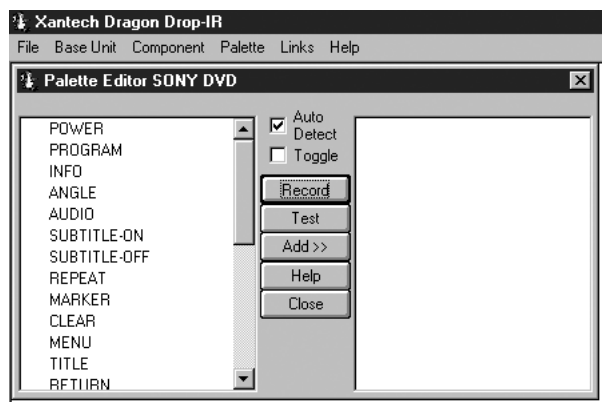

Figure 12 - Palette Editor
4. The Palette Editor will now be open to the "Brand" & "Component" selected. A list of FUNCTIONS for that type of component will appear as shown in **Figure 12**. (See later sections for adding functions).